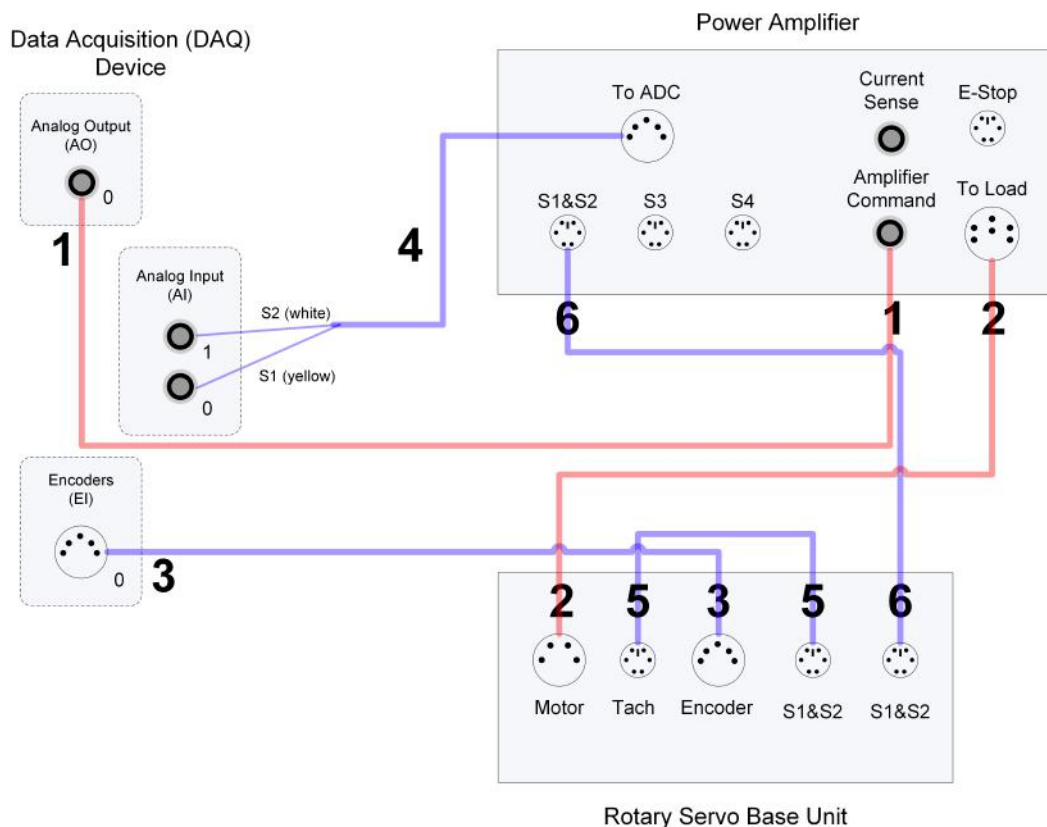

Figure 5.2: Connecting the Rotary Servo Base Unit to a Single-Channel Amplifier and Two-Channel DAQ
This section describes how to connect the Rotary Servo Base Unit Rev 1 plant to a data acquisition device and a power amplifier. The connections are summarized in Table Table 5.3 and illustrated in Figure 5.2. Connection details are given below.
Note: The wiring diagram shown in Figure 5.2 is using a generic data acquisition device. The same connections can be applied for any data acquisition system that has least 2x analog inputs, 1x analog output, and 1x encoder input.
3. Connect one end of the 2xRCA to 2xRCA cable from the Analog Output Channel #0 on the DAQ to the *Amplifier Command* connector on the amplifier, i.e. use both white or both red RCA connectors. See cable #1 shown in Figure 5.2.
4. Connect the 4-pin-stereo-DIN to 6-pin-stereo-DIN that is labeled from *To Load* on the amplifier to the *Motor* connector on the Rotary Servo Base Unit. See connection #2 shown in Figure 5.2.
5. Connect the 5-pin-stereo-DIN to 5-pin-stereo-DIN cable from the *Encoder* connector on the Rotary Servo Base Unit panel to Encoder Input #0 on the DAQ, as depicted by connection #3 in Figure 5.2.
6. Connect the *To ADC* socket on the amplifier to Analog Inputs #0-1 on the DAQ using the 5-pin-DIN to 4xRCA cable, as illustrated in Figure 5.2. The RCA side of the cable is labeled with the channels: yellow is S1, white is S2, red is S3, and black is S4. The yellow S1 connector goes to Analog Input Channel #0 and the white S2 connector goes to Analog Input Channel #1.
7. Connect the *TACH* connector on the Rotary Servo Base Unit to the *S1 & S2* socket on the Rotary Servo Base Unit using the 6-pin-mini-DIN to 6-pin-mini-DIN cable. This connection is labeled #5 in Figure 5.2. It combines the potentiometer (S1) measurement with the tachometer (S2) measurement.
8. Connect the *S1 & S2* connector on the Rotary Servo Base Unit to the *S1 & S2* socket on the amplifier using the 6-pin-mini-DIN to 6-pin-mini-DIN cable. See connection #6 in Figure 5.2. This carries the potentiometer (S1) and tachometer (S2) signals.